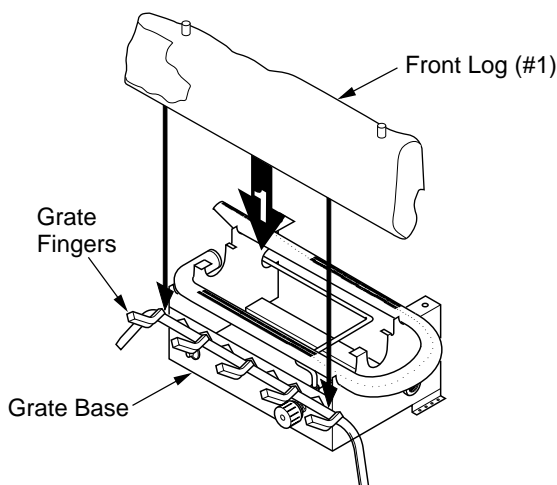

Figure 28 - Installing Front Log (#1) (CCL3930PTA Shown)
1. Place the front log (#1) on the grate fingers. Make sure the front log rests firmly between the grate fingers and the grate base (see Figure 28).